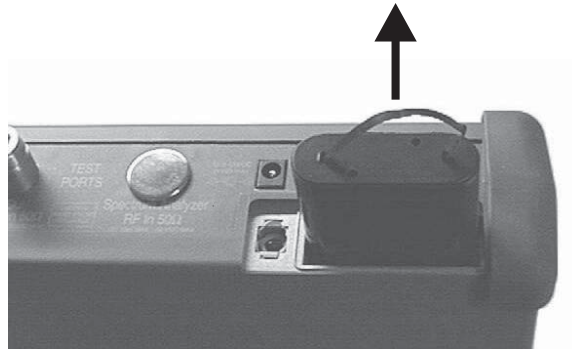

Figure 9. *Removing the Battery*
4. Grasp the battery lanyard and pull the battery straight up and out of the unit, as illustrated in Figure 9.